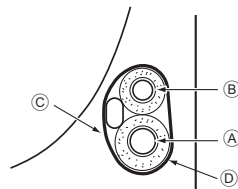

Fig. 4-5
4.5.1. Storing in the piping space of the unit (Fig.4-5)